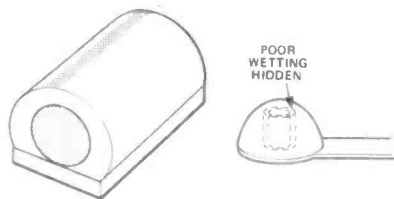

Figure 2. The result of adding extra solder to a poorly-wetted joint is a poorly wetted joint with extra solder on it. Unsolder and start again!
If you want them in order, look at **Figure 2**
**Figure 2. The wiring diagram for the Resistance Box. The links between one switch and the next can be made, with care, using the long uncut leads on the appropriate resistor. In this way no extra wire needs to be used (although you can do so if you prefer).**
As all switches are in series it doesn't matter what sequence they follow in the circuit. Hence they can be wired in the most convenient manner. The arrangement shown in **Figure 2** is the most straightforward, and the resistor wires can be used to link the adjacent columns just as they do adjacent switches. No extra wire is therefore needed at all except from the final switches to the output socket.